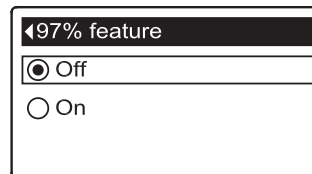

FIG. 77
- 8c. **97% feature:** If the desired option already has a black dot next to it (See Figure 77), go to Step 9. Otherwise, press the DOWN (▼) or UP (▲) buttons to scroll to the other option, then press SELECT (O) to choose it. If this feature is On, the conditioner/refiner will automatically recharge when 97% of capacity is used, at any time of day. Default is Off.